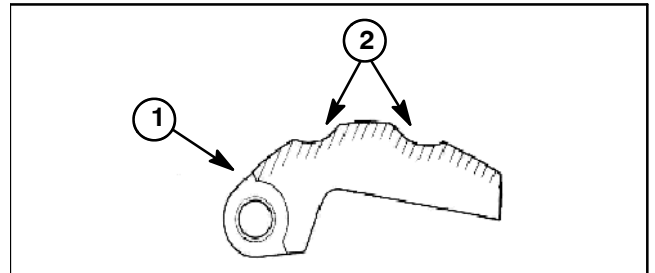

Figure 17
2. Check the surface of the cam weights (Fig. 17). If worn, replace all cam weights as a set.